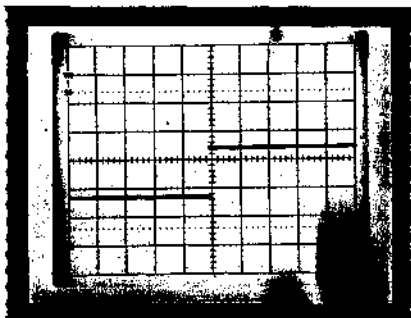

FIGURE 1
- Apply power to system. With channel 1 observe Jack 9 and adjust P3 for 100 usec output. Reference Figure 1.